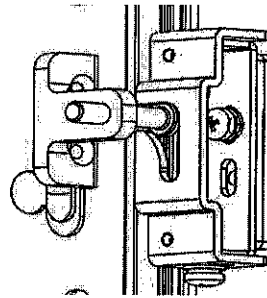
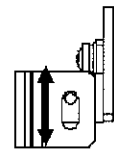

Fig.7
Fig.8
2)The lock is debugged before leaving the factory. If the dead bolt does not smoothly engaged with the striker as Fig.7, the striker can be adjusted up and down as Fig.8.